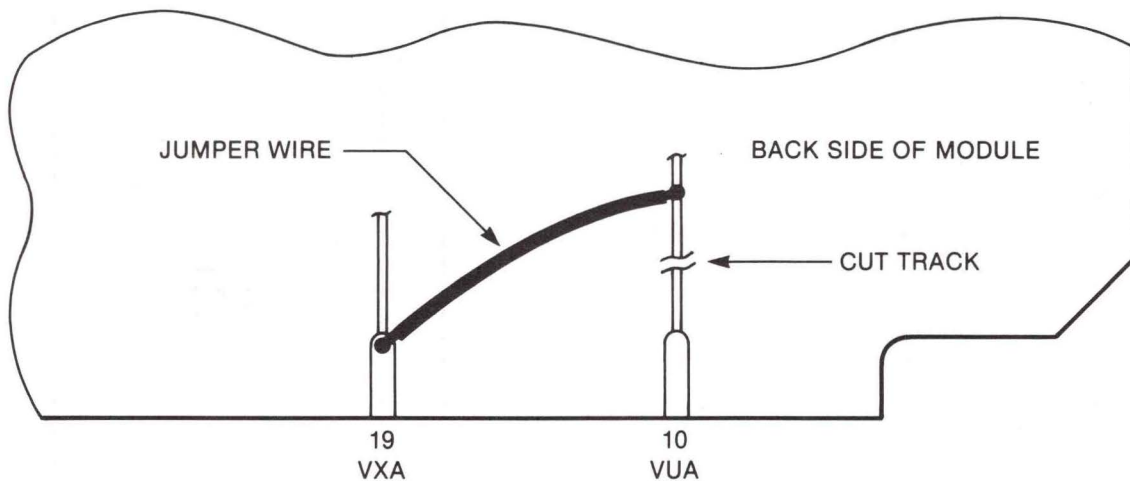

FIGURE E-2. Assigning EXORciser I Modules to VXA
E.1.2.4 Using M6800 EXORciser I Modules in the M6809 EXORciser or with MM19. Dual map capability requires that all peripherals and memories must be assigned to the proper map (VUA or VXA). All EXORciser I modules will respond automatically to VUA when operating at 1 MHz or less in an M6809 EXORciser (or EXORciser II) system or with MM19. In order to assign these modules to VXA, the user must modify the individual modules by cutting and jumpering a single connection at the edge connector of the EXORciser I module. The modification is the same for all EXORciser I modules, and is illustrated in Figure E-2. Cut the incoming VUA signal track from pin 10 near the edge connector finger. Solder a jumper wire from the VXA signal track (pin 19) to the circuitry side of the track cut just performed.